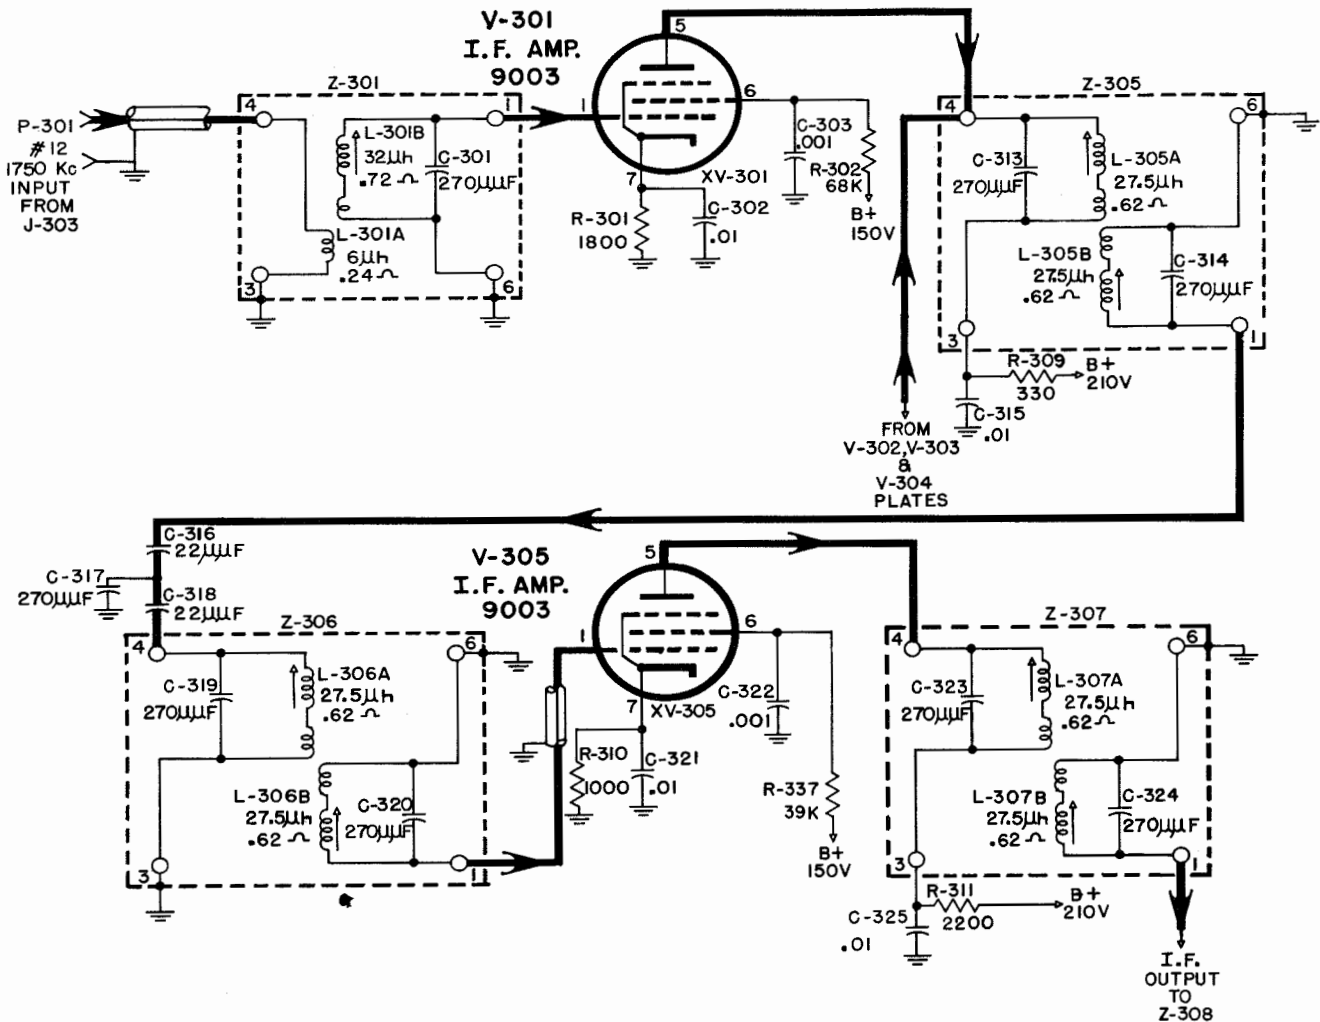

Figure 2-10. 1750-kc. I.F. Amplifier Stages, Simplified Schematic Diagram
(1) 1750-KILOCYCLE I.F. AMPLIFIERS. (See Figure 2-10.)—The 1750-kilocycle output of the R.F. amplifiers is fed into the I.F. chain through input connectors J-302, J-303, J-304 or J-307. This signal is transformer coupled to the grid of the selected I.F. amplifier tube V-301, V-302, V-303 or V-304, all type 9003, through transformers Z-301, Z-302, Z-303 or Z-304. The I.F. stages operate with fixed cathode bias and have roughly unity gain. All 1750-kilocycle I.F. stages are tuned to a center frequency of 1750